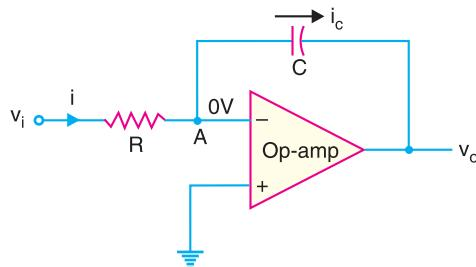
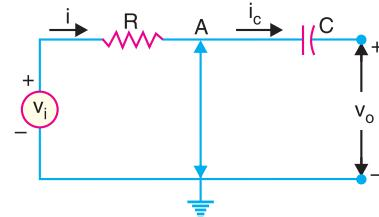
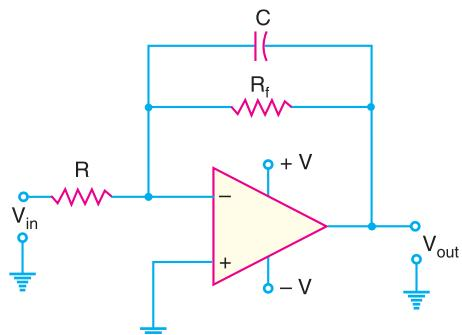

Fig. 25.80
Fig. 25.81
Fig. 25.83
As discussed above, an integrator is a circuit that performs integration of the input signal. The most popular application of an integrator is to produce a *ramp* output voltage (*i.e.* a linearly increasing or decreasing voltage). Fig. 25.80 shows the circuit of an *OP-amp* integrator. It consists of an *OP-amp*, input resistor  $R$  and feedback capacitor  $C$ . Note that the feedback component is a capacitor instead of a resistor.
**Circuit Analysis.** Since point  $A$  in Fig. 25.80 is at virtual ground, the \*virtual-ground equivalent circuit of operational integrator will be as shown in Fig. 25.81. Because of virtual ground and infinite impedance of the *OP-amp*, all of the input current  $i$  flows through the capacitor *i.e.*  $i = i_c$ .
The integrator shown in Fig. 25.80 (Refer back) has no feedback at 0 Hz. This is a serious disadvantage in low-frequency applications. By connecting a feedback resistor  $R_f$  in parallel with the capacitor, precise closed-loop voltage gain is possible. The circuit shown in Fig. 25.83 is an integrator with a feedback resistor  $R_f$  to provide increased stability.